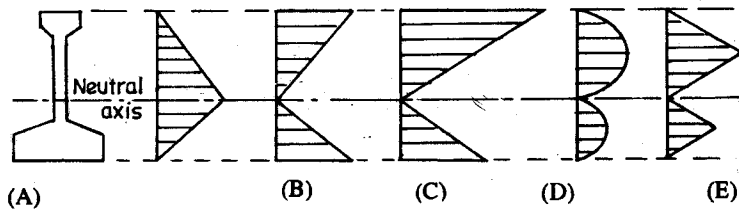

Fig. 44
87. The flexural stress induced in an I section beam will be as shown in Fig. 44